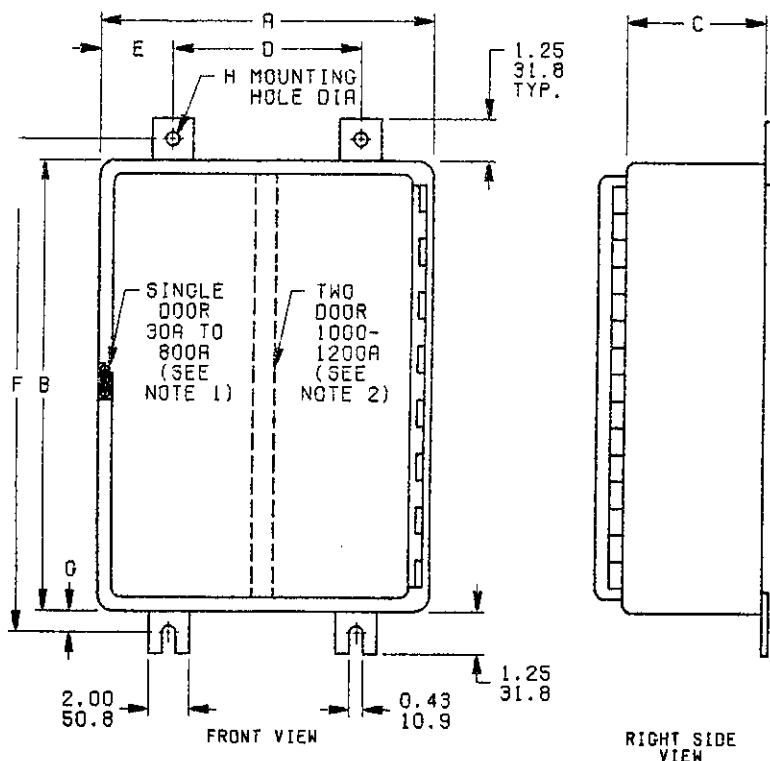

FIGURE 3
(FIGURE 3 ONLY)
3. WIDTH, HEIGHT, AND DEPTH DIMENSIONS ON FIG. 1 & 2 ARE INSIDE DIMENSIONS. WIDTH, HEIGHT, AND DEPTH DIMENSIONS ON FIG 3 ARE OUTSIDE DIMENSIONS.